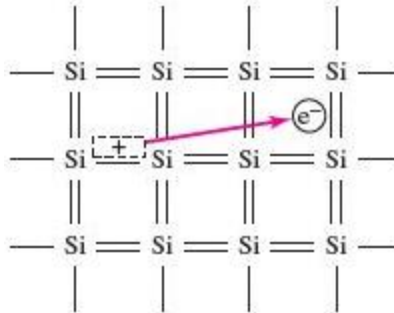

Figure 1.3 The breaking of a covalent bond for $T > 0$ K creating an electron in the conduction band and a positively charged “empty state”
- a hole is also generated (Fig 1.3)